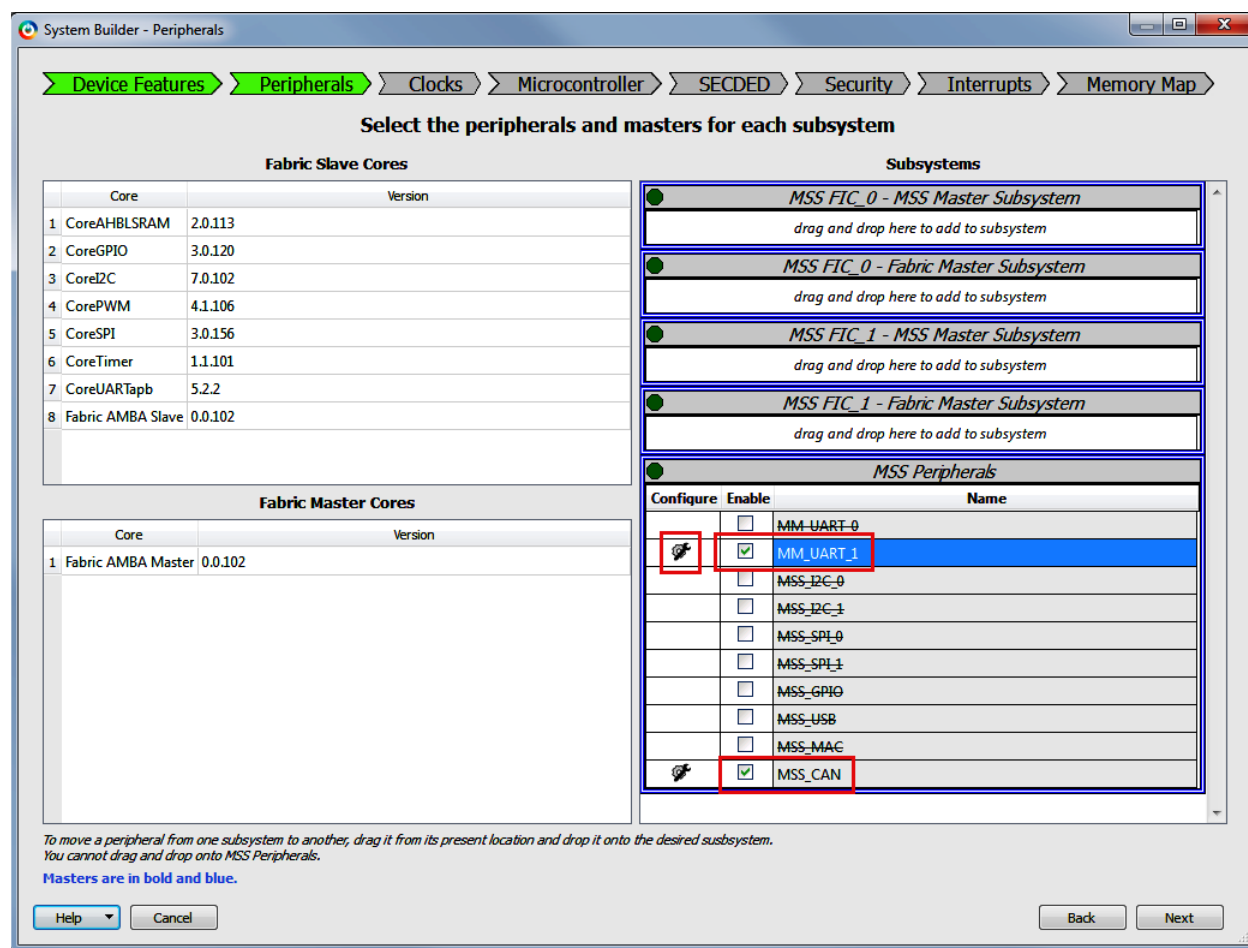

Figure 9 • System Builder - Peripherals Window
10. Select the **MSS_CAN** and **MM_UART_1** MSS peripheral check boxes and clear all the other MSS peripheral check boxes as shown in Figure 9.
11. Double-click the settings icon next to **MM_UART_1** peripheral. Figure 9 highlights the **MM_UART_1** and **MSS_CAN** peripherals and the settings icon. The **Configuring MM_UART_1_0** window is displayed.